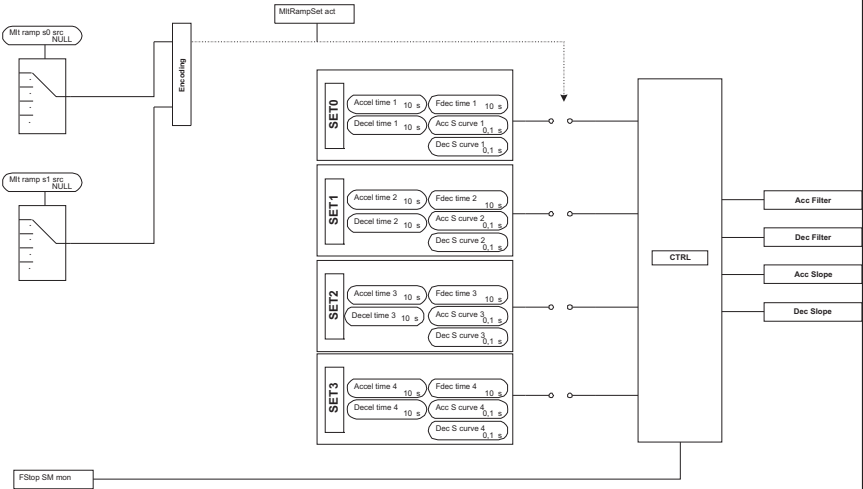

Figure D01: Multiramp block
1. Switch is closed if Ramp out enable = Enabled & Start Switch is closed if Ramp out enable = Enabled & Stop 2. Switch is closed if Ramp out enable = Enabled & (!FastStop) Switch is closed if Ramp out enable = Enabled & (FastStop) Both switches are closed if Ramp out enable = Disabled Figure D01-B: Ramp setpoint